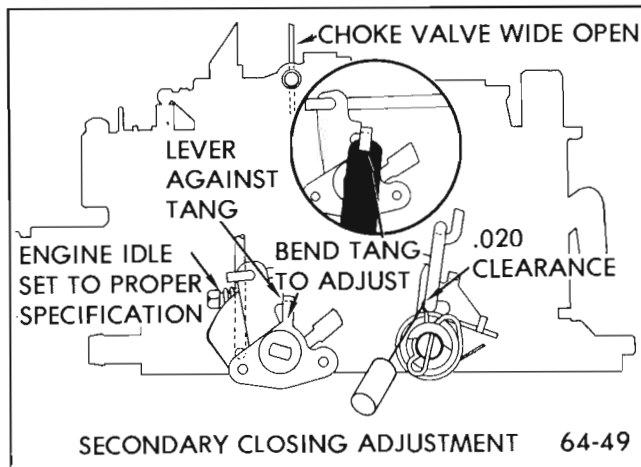

Figure 64-49 - Secondary Closing Adjustment
3. Bend tang on primary throttle actuating lever to adjust. See Figure 64-49.